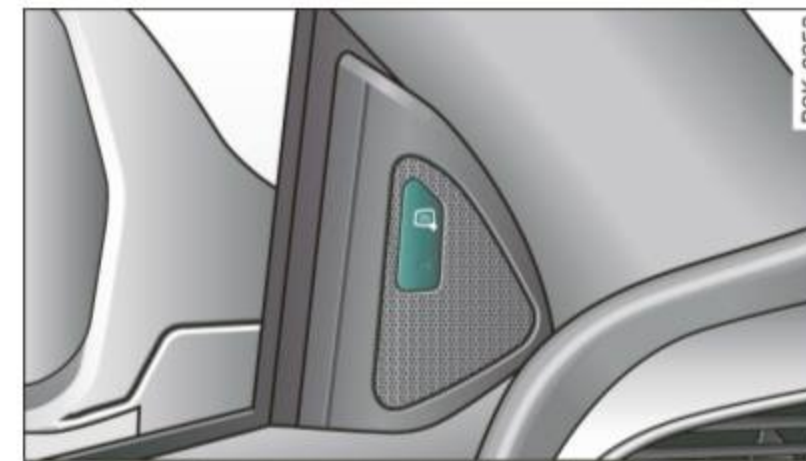

Fig. 143 Driver's door: Side assist button
- Press the ⇒ fig. 143 button. The indicator on the button lights up. ▶